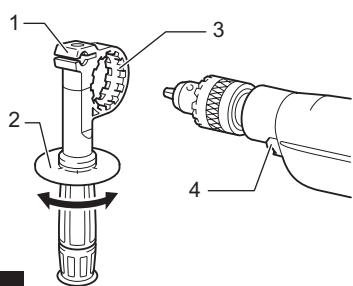

Fig.4
- Fig.4: 1. Grip base 2. Side grip (auxiliary handle)